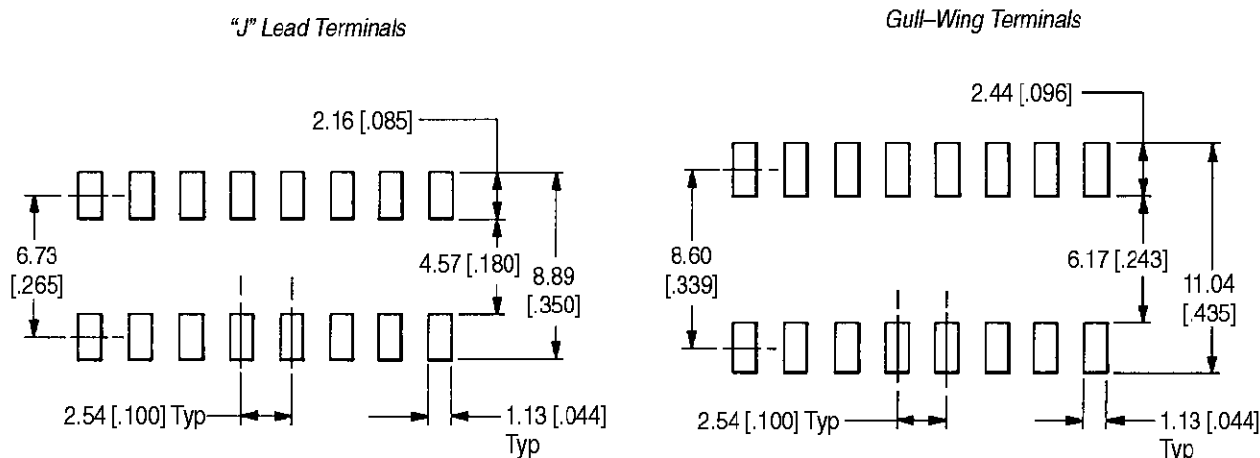

Figure 2
3. If a solder mask is used, it must allow full clearance around the pads as defined in Figure 2.
Recommended pattern and dimensions are shown in Figure 2.
If the aperture dimensions on the stencil are the same as the nominal pad dimensions shown in Figure 2, stencil thickness can be calculated with the following relation: